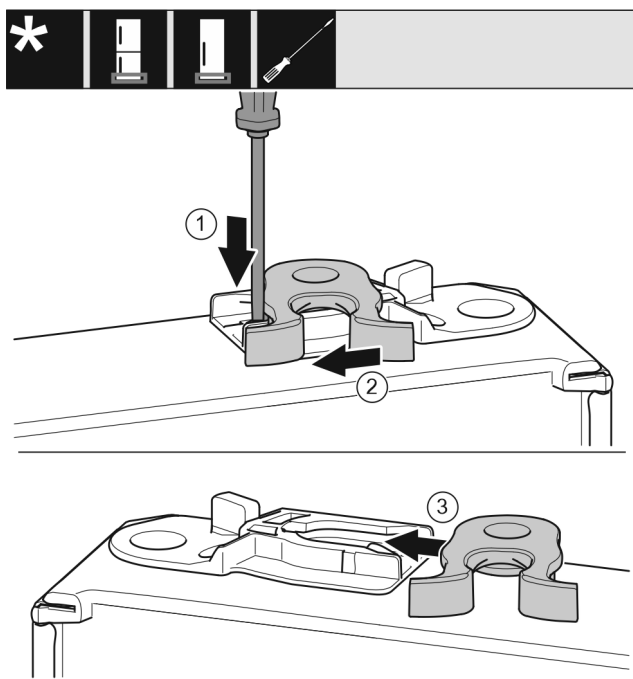

Fig. 23 *
- Use a slotted screwdriver to push the tab Fig. 23 (1) downwards.*
- Pull the closing hook Fig. 23 (2) out of the guide.*
- Insert the closing hook Fig. 23 (3) into the guide on the other side.*